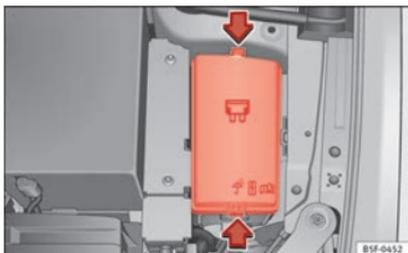

Fig. 101 In the engine compartment: fuse box cover.
- Press the locking tabs to release the fuse box cover » **Fig. 101**.